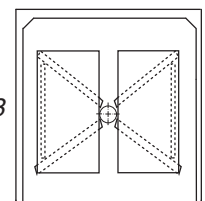

Figure 8
- 8** **CONSTRUCT WEIGHT PLATES** if not provided, as shown in Figure 8. Weight plates distribute the weight evenly, which helps prevent deformities in the sloping floor. They also help to ensure that the epoxy spreads evenly and bonds securely to both shower bottom and floor.